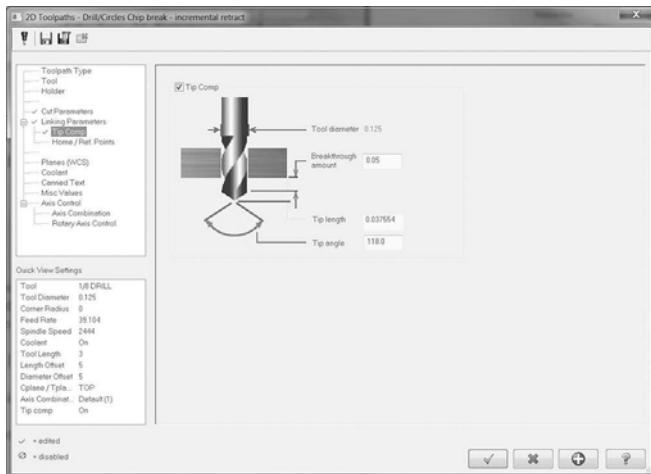

Figure 5-53 Tip Compensation Dialog
- Activate Tip Comp and adjust the Breakthrough amount to $.05"$ as in Figure 5-53.